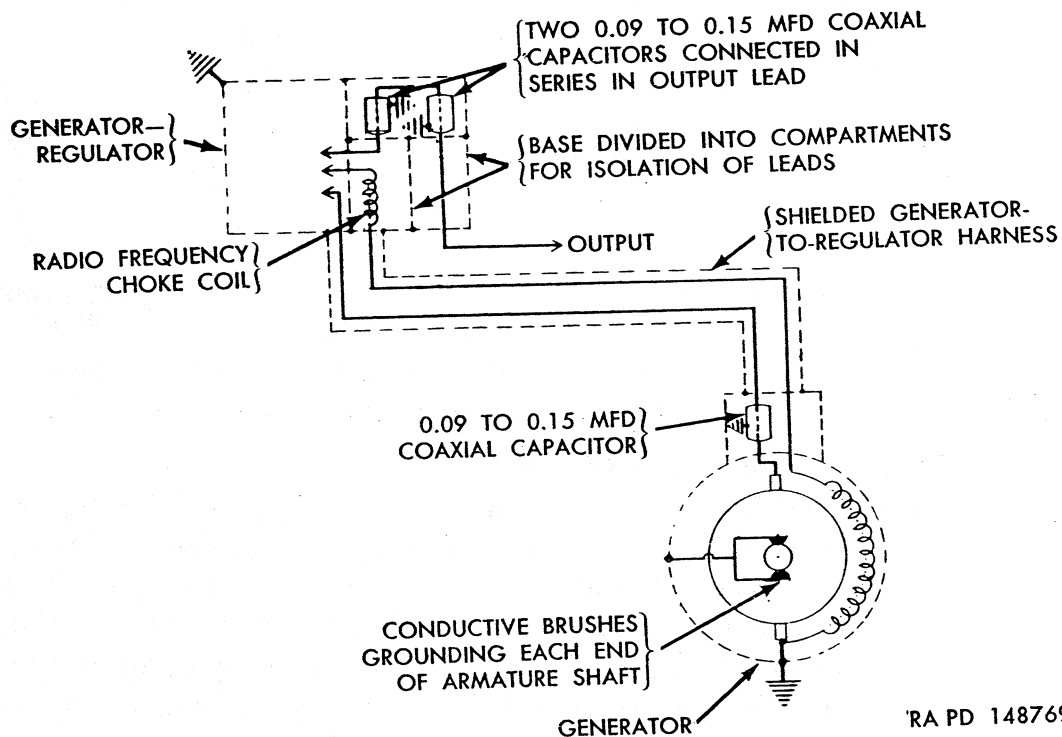

Figure 181. Schematic circuit diagram of generating system radio suppression units.
a. *Description and Data* (fig. 181). A 0.09 to 0.15 mfd coaxial capacitor is connected into the generator output cable; capacitor is installed in the generator harness connector elbow and grounded to the elbow. Conductive brushes are installed in the generator, grounding each end of the armature shaft. Wiring harness leading from generator to generator-regulator is shielded with metallic braid molded into the harness insulation. Two 0.09 to 0.15 mfd coaxial capacitors are connected in series in the generator-regulator output cable and are grounded to the regulator base. A radio frequency choke coil is connected into the field circuit in the generator-regulator. Regulator base is divided into compartments for isolation of the leads.